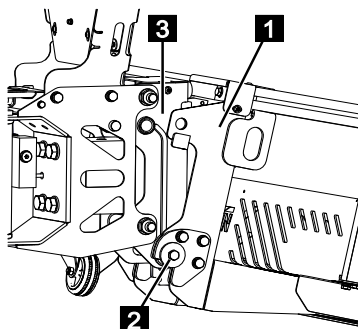

Fig. 157
2. Working as a pair, insert the working basket (Fig.157/1) into the holder (Fig.157/2) and push it into the working basket mount (Fig.157/3).